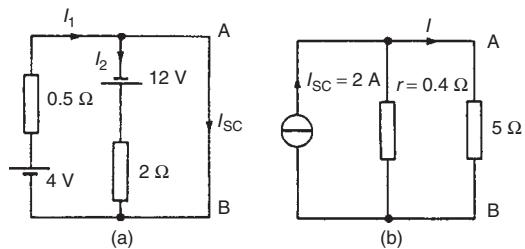

Figure 13.59
- The 5Ω branch is short-circuited as shown in Fig. 13.59(a)
- From Fig. 13.59(a),
- (iv) From the Norton equivalent network shown in Fig. 13.59(b) the current in the 5Ω resistance is given by: